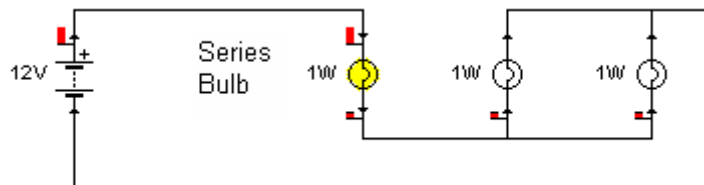

Figure 1: Using 12 Volts
**Set-up Instructions:** The suggested bulbs to be used with the lamp boards are 3.2V light bulbs. (It is always a good idea to teach safety while teaching electricity. With this goal in mind, students should be taught to keep the power to the circuit off when they change configurations of the strap-connectors.) The light bulbs should not be over-tightened in their sockets, but they have a tendency to loosen as the board is used, and so should be checked for tightness with each configuration. While 6 volts is recommended, the filaments of the bulbs will still glow at lower voltages. On the other hand, if a 12 volt source needs to be used, a single #40 bulb (6.3V, 0.15A) can be placed in series with any other bulbs to insure that no bulb will have more than 6 volts supplied to it (see Figure 1).